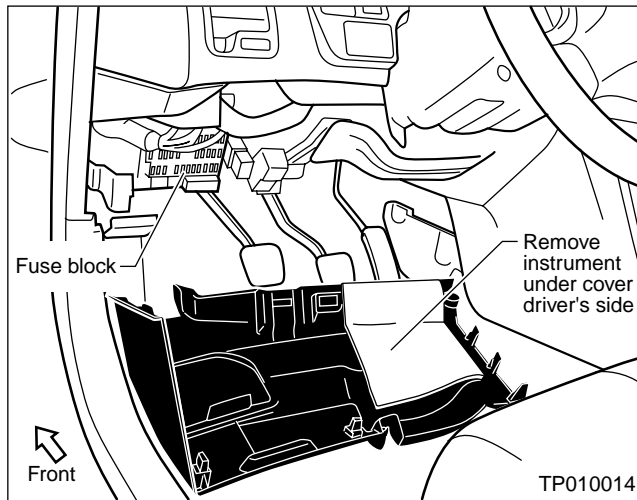

Figure 1
3. Remove the instrument under cover, driver's side (see Figure 1):